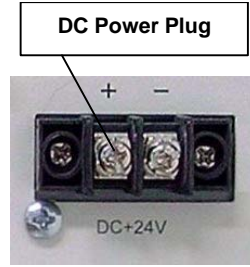

Fig. 12a: DC power connection
1. Loosen enough the two slotted screws of the provided terminal of the DC power supply, so that you can insert the ends of the connecting wires. Pay attention to the polarity of the connections (see *fig. 12a*).